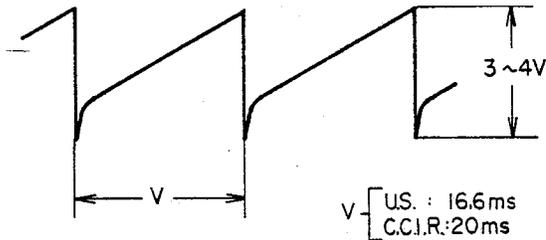

Fig. 3 Vertical Deflection Waveforms
- (b) Connect Oscilloscope between P.C. Board V. Yoke Terminal (Green) and chassis and confirm that the waveform appearing is as shown in Fig. 3.